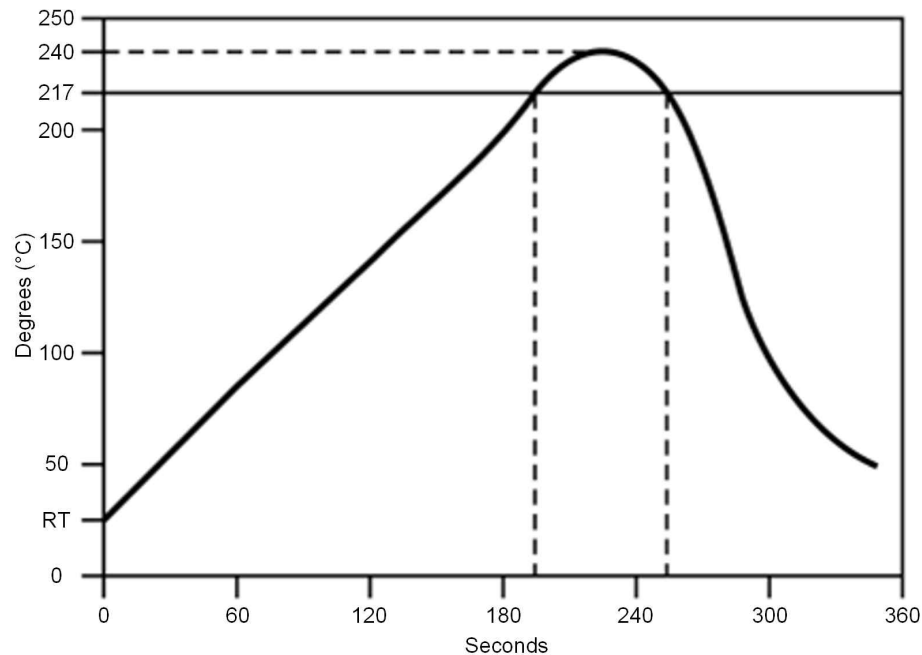

图 11-1. Temperature Profile for Evaluation of Solder Heat Resistance of a Component (at Solder Joint)
- Temperature measurement: Thermocouple d = 0.1 mm to 0.2 mm CA (K) or CC (T) at soldering portion or equivalent method
- Allowable reflow soldering times: 2 times based on the reflow soldering profile (see 图 11-1)
- Temperature profile: Reflow soldering will be done according to the temperature profile (see 图 11-1)